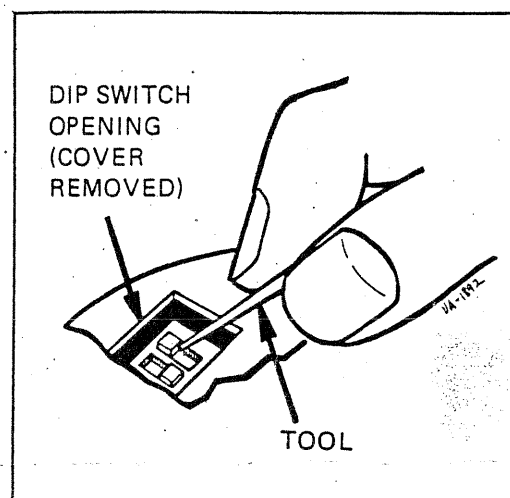

FIGURE 1
- B. Using a pointed tool (Figure 1), set DIP switch to the binary code.